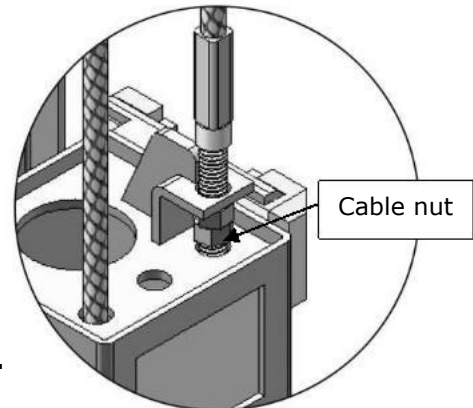

Fig. 49
1. Adjust synchronous cable (See Fig. 49)